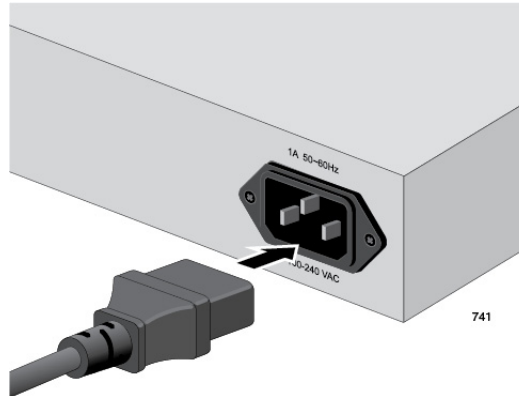

Figure 15. Plugging in the AC Power Cord
1. Plug the power cord into the AC power connector on the back of the switch, as shown in Figure 15.